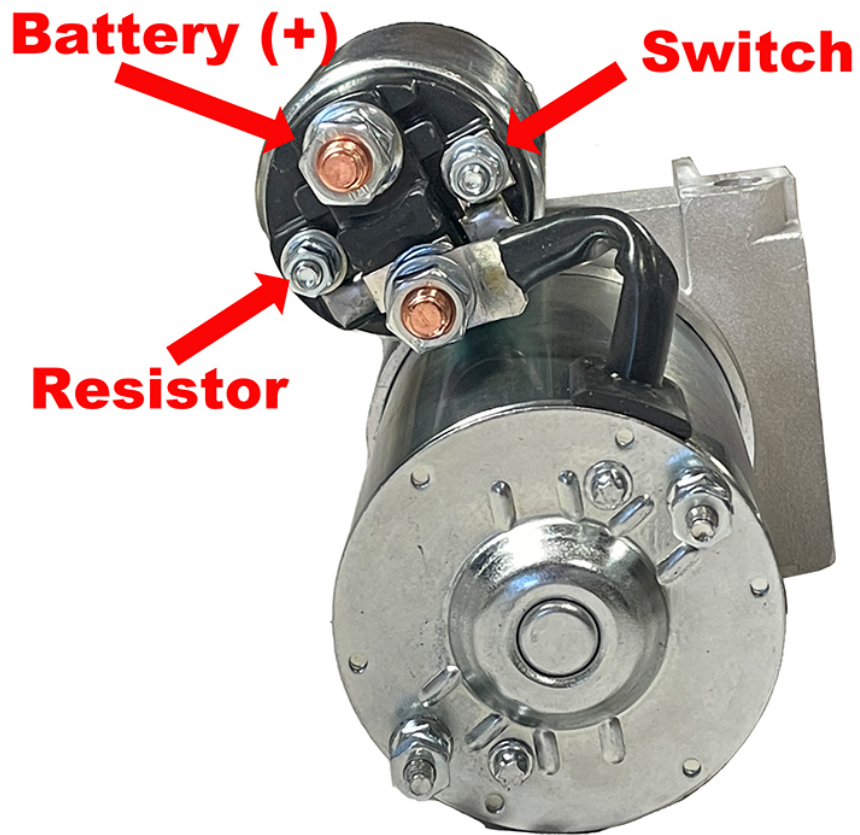

Figure. 1
- 1) Attach the positive battery wire to upper terminal marked **Battery** in Figure 1
- 2) Connect the 12 or 14 gauge wire from starter switch to the post terminal marked **Switch** in Figure 1.